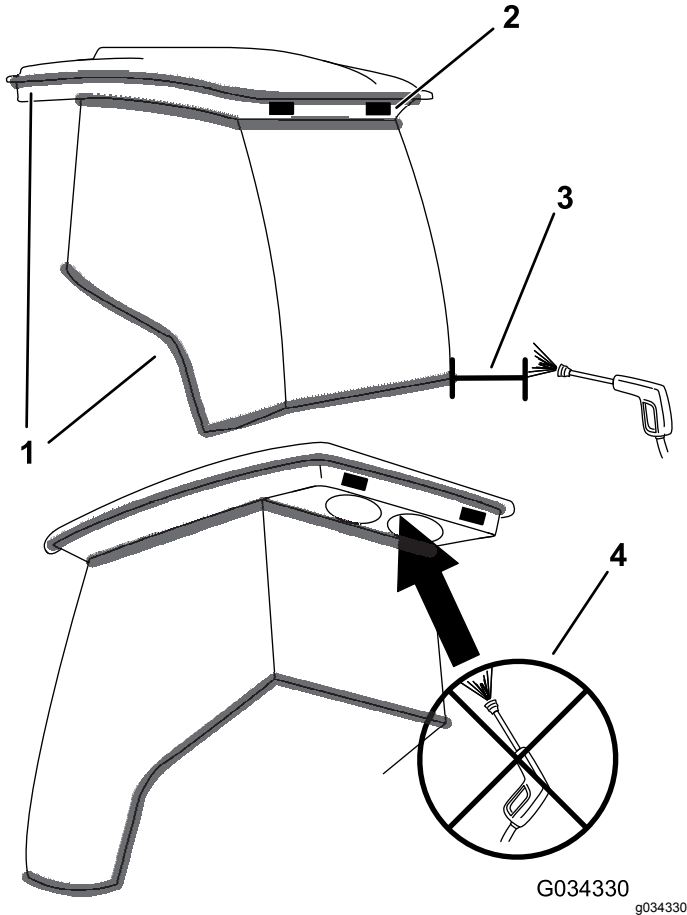

Figure 96
**Important:** Use care around the cab seals and lights (Figure 96). If you are using a pressure washer, keep the washer wand at least 0.6 m (2 ft) away from the machine. Do not use the pressure washer directly on the cab seals and lights or under the rear overhang.